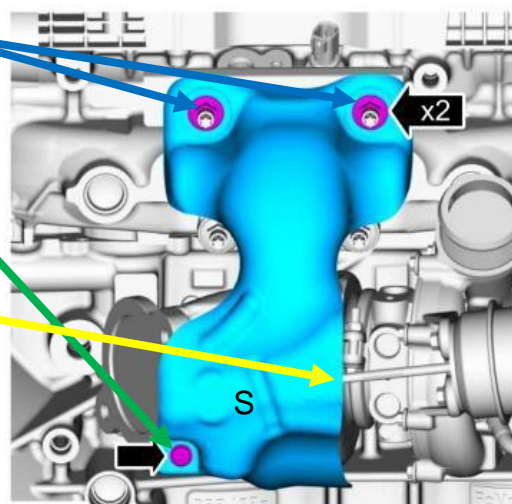

Fig. 22
1. Slip heat shield back into position. See Fig. 22
3. Tighten lower heatshield bolt. See Fig. 22 (use 8mm socket or T35 Torx bit) *Torque to 89 lb.in (10 Nm)*